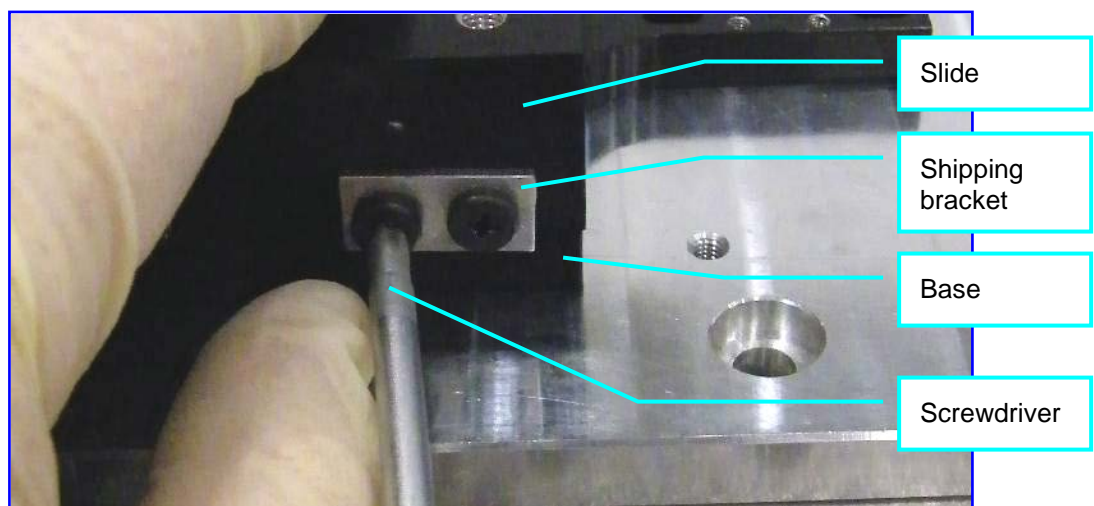

Figure 1: Removing the Shipping Bracket
- 3.1.1 All FB stages are delivered with their axes locked by shipping brackets. Before stage operation remove the shipping bracket by means of screwdriver, see Figure 1: